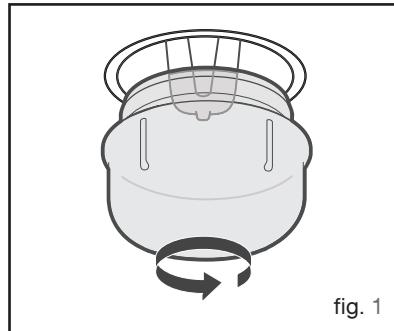

fig. 1
- Unscrew the view port clockwise (fig.1),